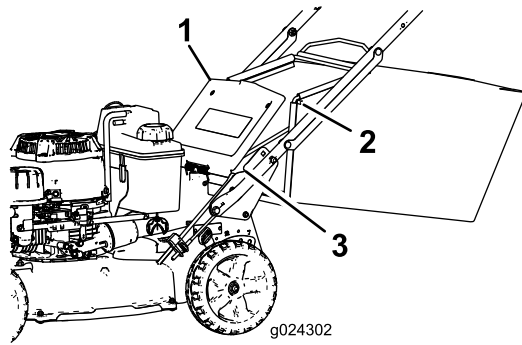

Figure 20
2. Raise and hold up the rear door (Figure 20).
4. Install the bag-rod ends into the notches at the base of the handle, and rock the bag back and forth to ensure that the bag-rod ends are seated at the bottom of both notches (Figure 20).
3. Remove the bag rod on the grass bag from the notches at the base of the handle (Figure 20).